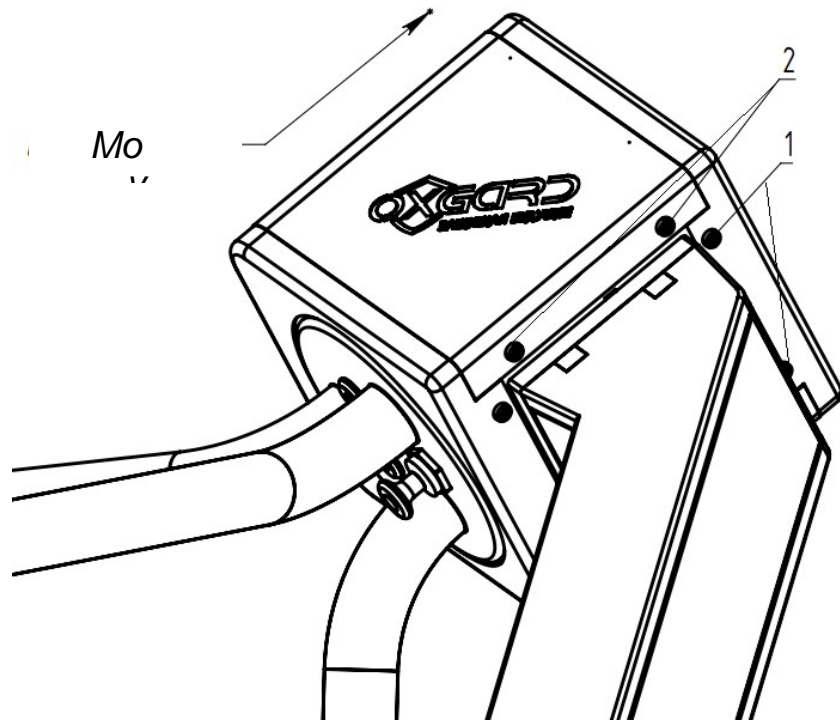

Fig.2
Switch off the power supply unit of the turnstile and disconnect it from the mains. To get an access to all required units of the turnstile it is necessary to disassemble the turnstile partially. This scope of works includes removal of the protective backshell. In order to get that done unscrew two screws (1) and four screws (2), smoothly move the backshell up at a small distance so that not to break the cable, coming to the indication board (Fig. 2). Disconnect the cable from the indication board.